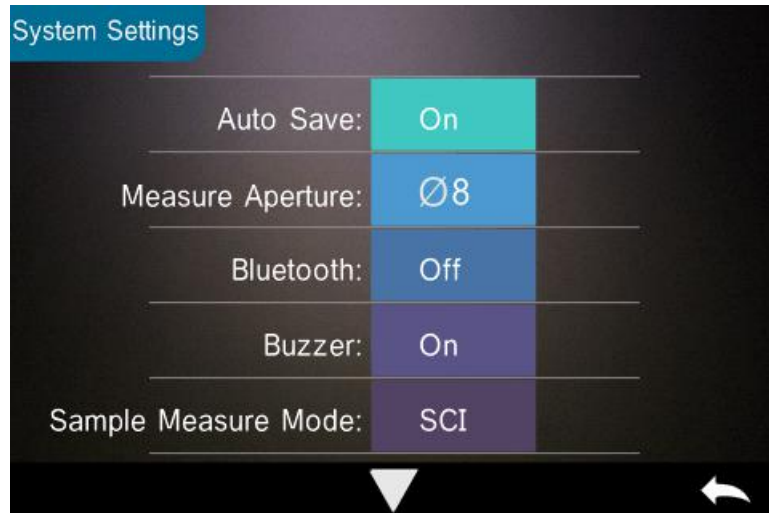
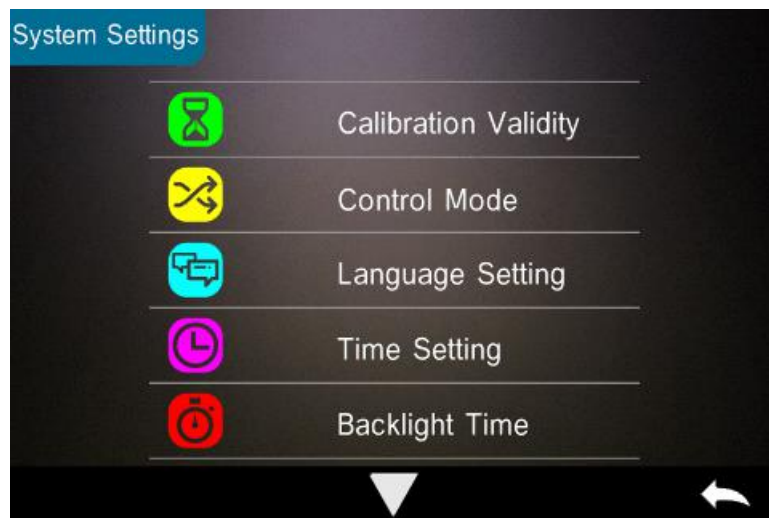
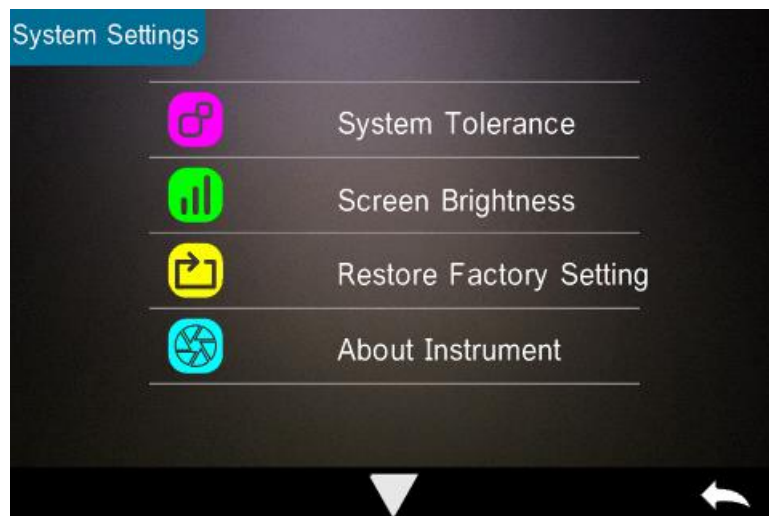

Figure 44 System Settings
Figure 45 System Settings
Figure 46 System Settings
In the main menu, click “System Setting” as shown in Figure 44, Figure 45 and Figure 46.
Step 3: Switch the default system measurement aperture to correspond with the actual measurement aperture. As shown in Figure 44, the current measurement aperture is Φ 8mm. After switching the measurement aperture, you have to re-calibrate the instrument according to part 2.2.